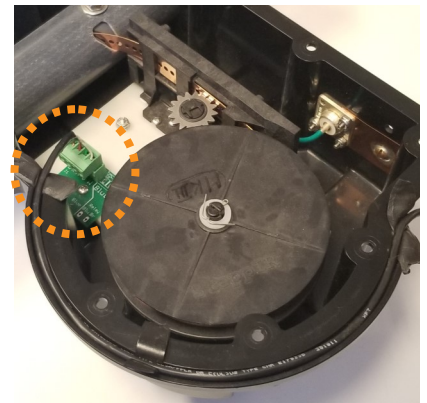

Figure 1.17
10. Lay the control cable wire inside the wire tray of the EHU as shown in **figure 1.17**. It is a good idea to leave a small amount of slack between the plug and the point which the tray starts as shown in the circled region of **figure 1.17**.